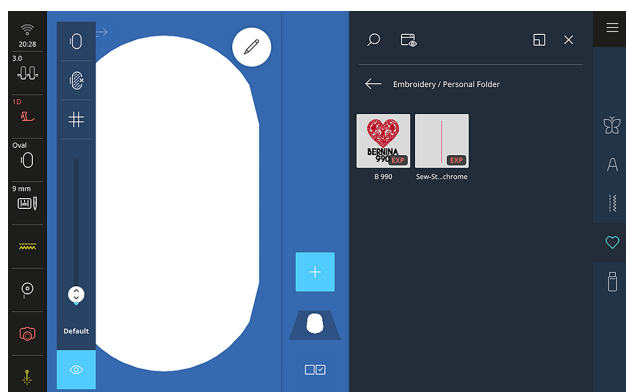

Fig. 54
4. Select the saved "B 990" design to place it on the screen (Fig. 54).